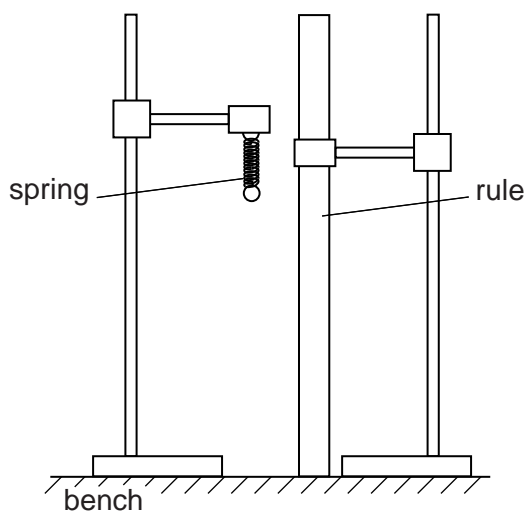

Fig. 1.1
3. The apparatus is to be set up for the candidates as shown in Fig. 1.1. The spring is to be sufficiently high above the laboratory bench that when the 5 N load is hung on the spring, the bottom of the load is about 10 cm above the surface of the bench.
Check that the apparatus is set up as shown in Fig. 1.1.